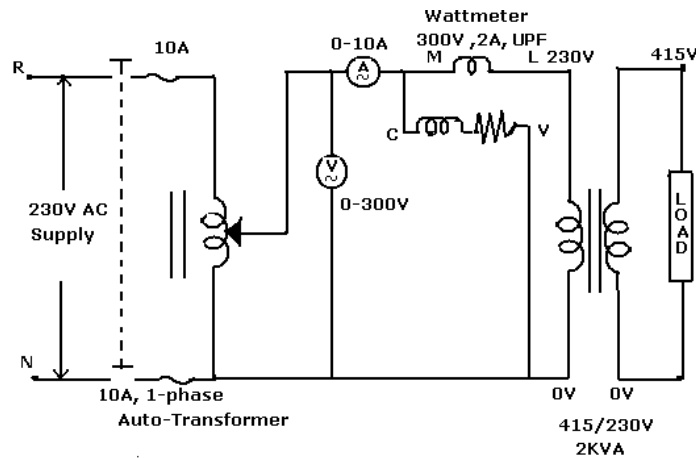

Fig.1.3: Load Test
- \* Connect the circuit diagram such that the supply on LV side and load on HV side as shown in the fig. 1.3.